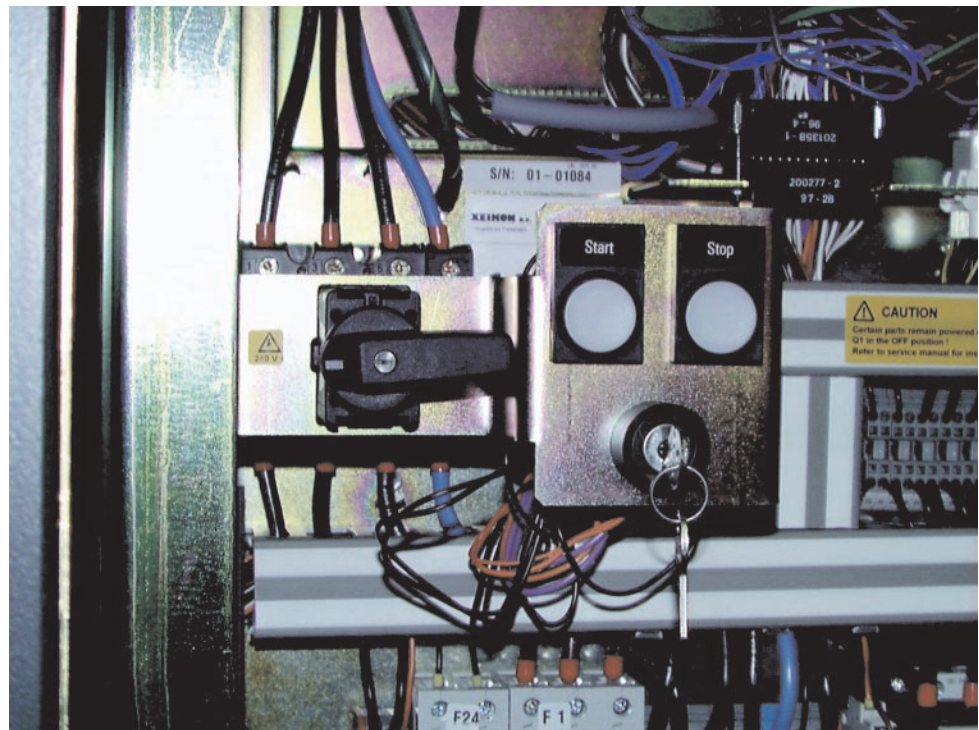

Figure 262. InfoPrint Color 100 Main Switch and Maintenance Key
2. Turn the maintenance key counter-clockwise 90°, as shown in Figure 262.